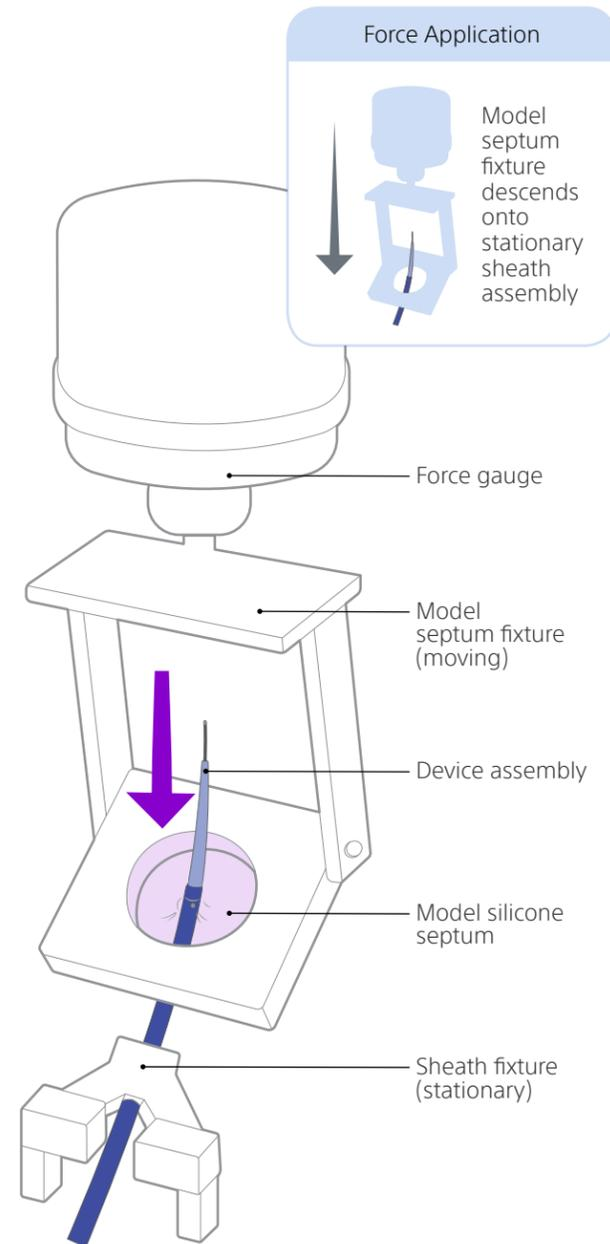

Figure 1. Benchtop model for transseptal access
**Crossing force** – Ten SureFlex™ assemblies and eight Agilis™ NxT assemblies were tested. In a benchtop model for transseptal access (Figure 1), a 0.020" thick 30 mm diameter silicone sample (35 Shore A durometer) was positioned at a 45° angle to mimic septal tissue, and mounted on an Instron® Testing System with a 2 kN force gauge. An NRG™ Transseptal Needle (Baylis Medical®) was loaded inside each sheath-dilator assembly, which was then loaded into a custom fixture against the model silicone septum. A needle was used to puncture the silicone to model transseptal access. The force gauge was zeroed, and the entire device assembly was allowed to advance until the tip of the sheath fully crossed the model septum.